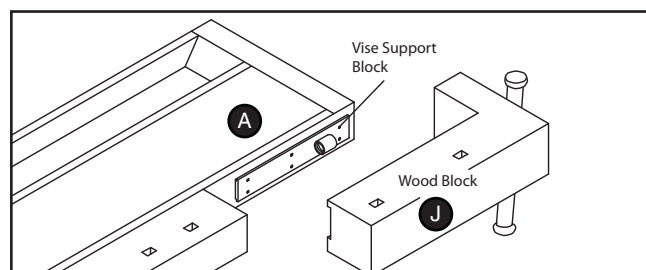

Figure 9. Tail vise installation.
17. Insert the tail vise wood block into the vise support block (**Figure 9**). Insert the tail vise leadscrew through the holes in the wood block and the vise support block at the edge of the table.